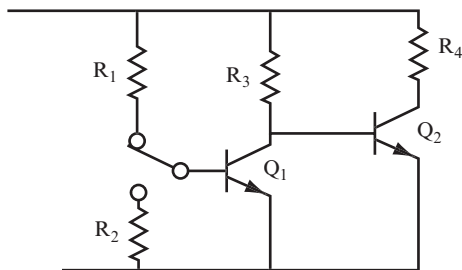

FIGURE 12.5
28. Using the circuit shown in Figure 12.5, find the values of R_1 , R_2 , and R_3 that can enable the switch to turn Q_2 ON and OFF if $V_S = 10$ volts, $\beta_1 = 50$, $\beta_2 = 20$, and $R_4 = 2.2$ k Ω . _____
29. Again, using the circuit shown in Figure 12.5, find the values of R_1 , R_2 , and R_3 that can enable the switch to turn Q_2 ON and OFF if $V_S = 28$ volts, $\beta_1 = 30$, $\beta_2 = 10$, and $R_4 = 220$ Ω . _____